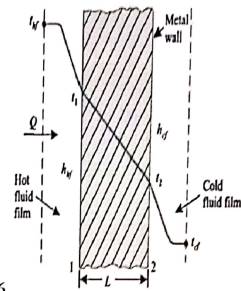

Fig. 6
- (a) Using Fig. 6, show that the overall heat transfer coefficient is